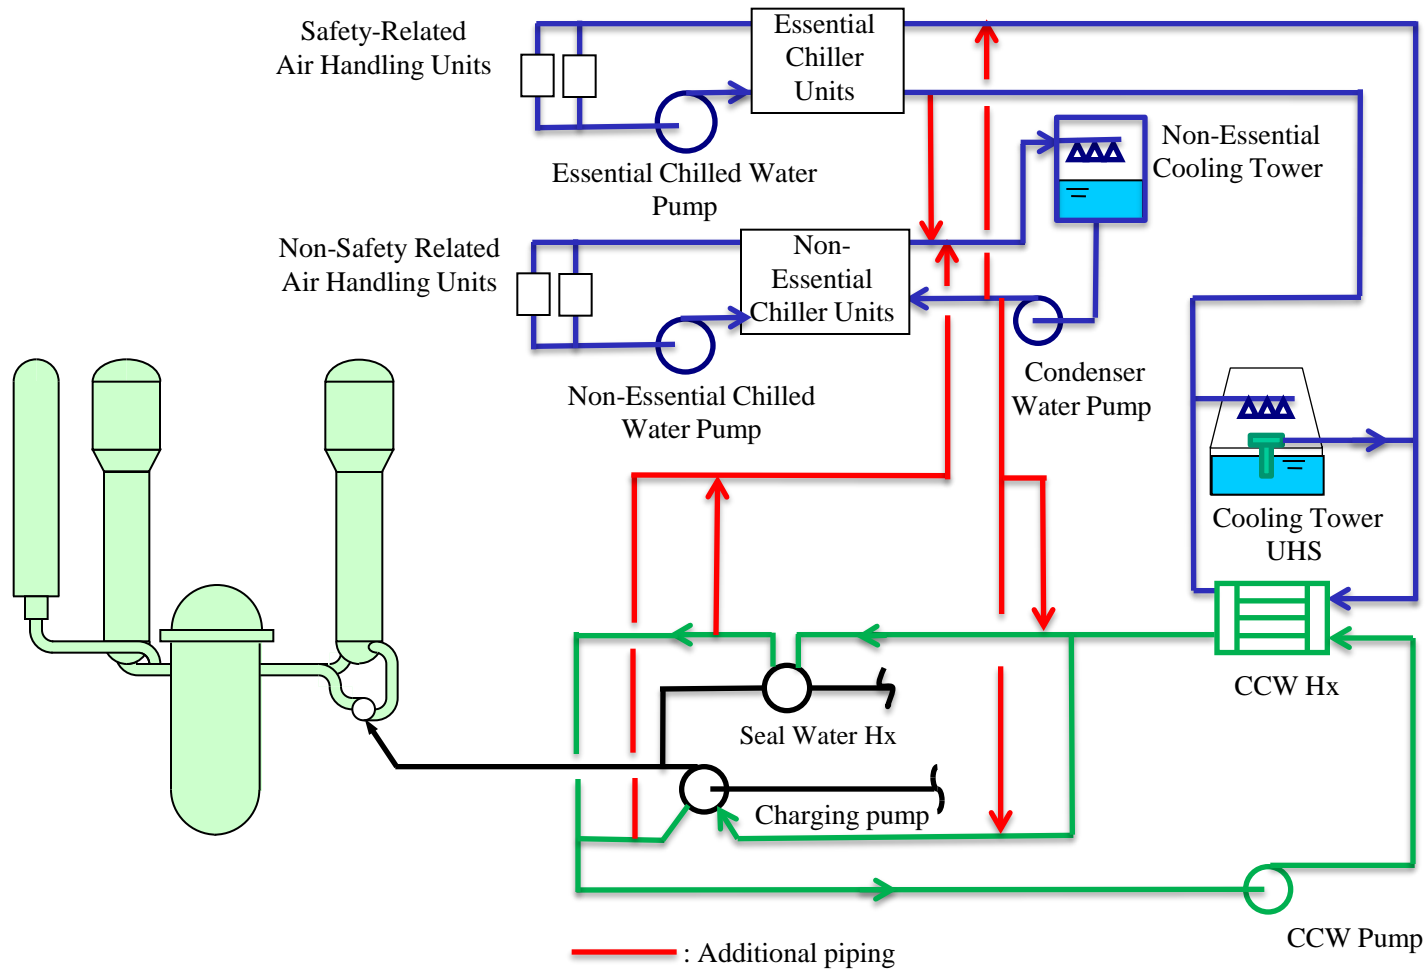

Fig. 2 Alternate UHS
- Open isolation valves and start two Non-essential Chiller C/T (Non-essential Chiller Cooling Fans and Non-essential Chiller Water System Condenser Water Pumps) to supply cooling water to CHPs, Seal Water Heat Exchanger and to Essential Chiller Units. See Fig. 2
- Introducing of alternate UHS : adding connection lines between Non-essential Chiller C/T and 1) CCW piping for CHPs, 2) CCW piping for Seal Water Heat Exchanger, and 3) ESW piping to Essential Chiller Units. See Fig. 2
- Two sets of wide range and two sets of narrow range safety-related SFP level instrumentations that can monitor (1) level to support operation of the normal fuel pool cooling system, (2) level to provide substantial radiation shielding, and (3) level to confirm water coverage over the spent fuels to implement make-up water addition. See Fig. 2